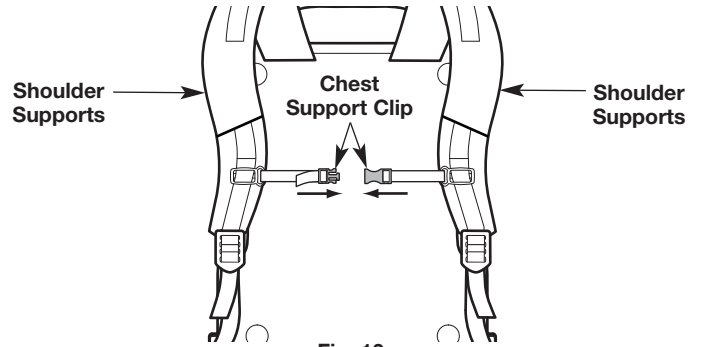

Fig. 10
1. Place the shoulder supports over both shoulders (Fig. 10). The engine should rest securely on the operator's back.
- Insert one end of the chest support clip into the other end until it locks into place (Fig. 10).
The weight of the unit should be supported on the shoulders by the shoulder supports (Fig. 10). Adjust the shoulder supports and chest support as necessary.